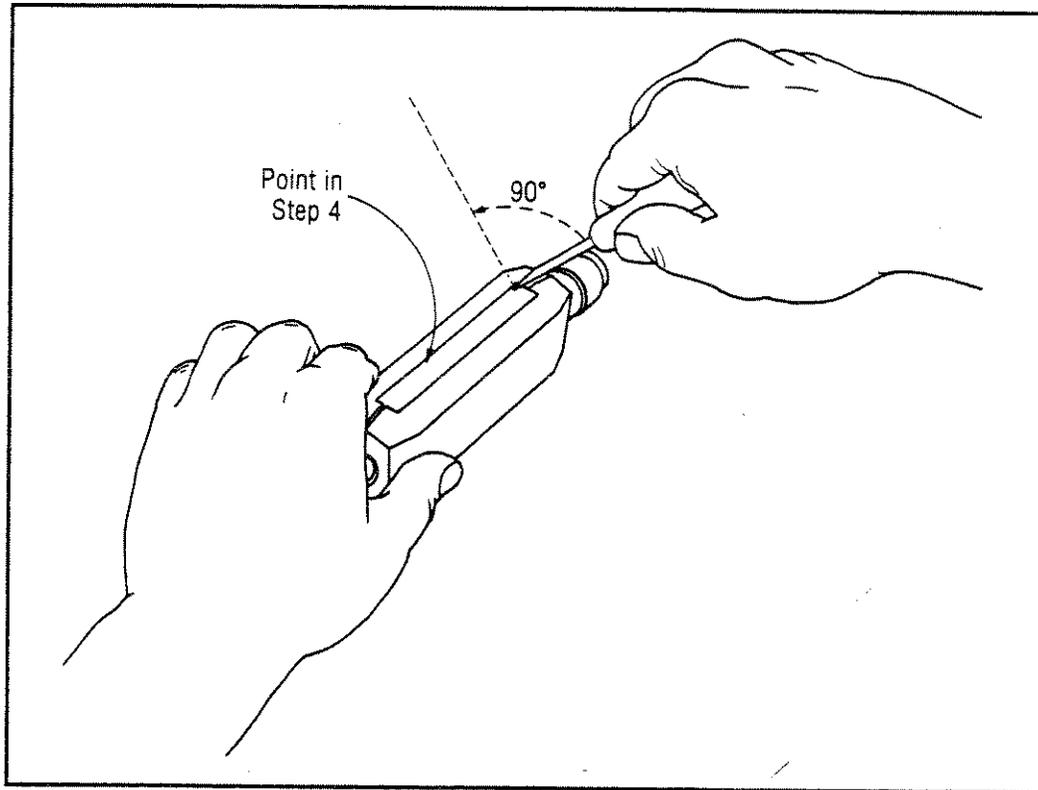

Figure 5-1. Removing the Sensor Covers
1. Place the Sensor so its narrow side is on a flat surface. Position it so that the connector is facing away from you. Refer to Figure 5-1.
2. Hold the sides of the Sensor near the cable end. Insert the screwdriver at a 45° angle as shown in Figure 5-1. Make sure the screwdriver is inserted as far forward on the Sensor as possible.
4. Repeat steps 2 and 3, inserting the screwdriver approximately 2/3 of the way toward the cable end of the Sensor, at the point shown in Figure 5-1.
3. Remove the covers. See Figure 5-1 and Removing the Covers in this chapter.